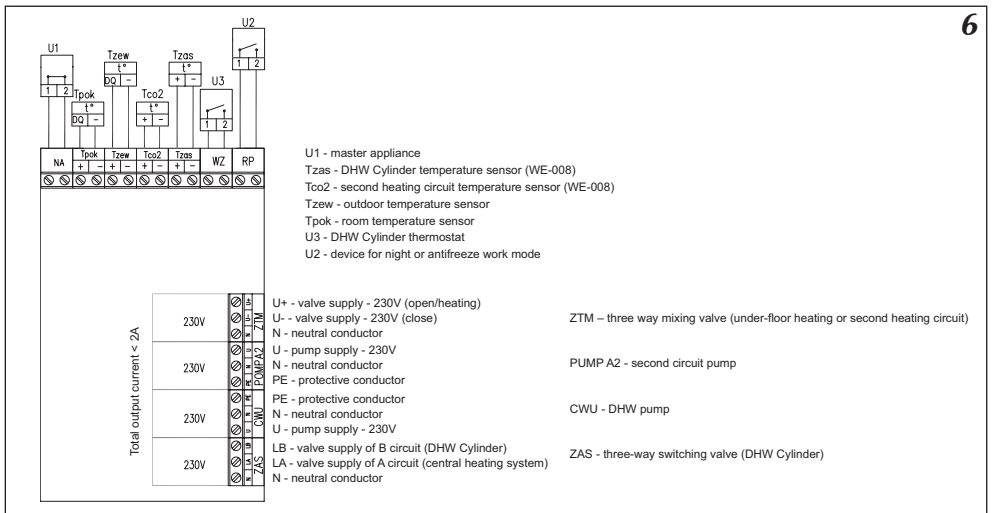

Fig.6 Connecting external appliances to the ZIO board
- close the NA entry on ZIO board (see fig.6),
A number of other appliances or necessary sensors (fig. 6) can be connected to the boiler according to the individual requirements. The temperature sensors should be connected using a LIYY 2x0,14 or similar type of wire. Pay special attention to the sensors ending, incorrect wiring may result in short circuit. The connecting wire lengths must be limited. A long wire may cause interference and faulty sensor operation. The wires must not be run in the same conduit with (or too close to) electrical wiring, and must not be wrapped around any other wires or cables.
Master appliance – you can limit the boiler electricity consumption by connecting the master appliance (e.g. instantaneous water heater) – see fig.6. The master appliance must be equipped with the relay output. The output should be connected to the NA entry in the ZIO board by using LIYY 2 x 0,14 or similar type of wire. **Do not connect any voltage to NA entry!** Use an appropriate relay if the master appliance can control the voltage signal only. **NA entry must remain closed if not used!**
Controller can measure a water temperature for: a) cylinder thermostat equipped with a free voltage output. b) cylinder temperature sensor (WE-008 offer by Kospel S.A.- optional equipment) Set the „Extended Menu” for option a or b. For thermostat contacts and cylinder sensor connection details see fig.6.
There is a ZAS connector on ZIO22 board. (fig.6, page 8). If there is a need to heat-up the water in the DHW cylinder the LB contact is supplied with 230V. In the case of boiler heat the water in the central heating system the LA contact is fed from 230V supply. You can connect a three-way valve to the ZAS connector to switch the central heating system circuit for DHW, if necessary. In the case of DHW heating the outlet temperature is set at 80°C (standard set point). You can lower the outlet temperature by setting the „Extended Menu”. Kospel recommends to use the VCZMH6000E three-way valve with the VC6012ZZ00 servo-motor and the 45900445-013B wire. The three-way valve work is controlled by supplying voltage of 230V to either brown or black wire. The blue wire must be connected to the terminal of neutral conductor „N”. If you use the brown wire you will open the port between „AB” inlet and „B” outlet. If you use the black wire you will open the port between „AB” inlet and „A” outlet. See valve body for the inlet and outlet marking.
Fig.6 shows the three-way valve connection diagram. Connection diagram is based on the following assumptions: the boiler hot water outlet is combined with the „AB” inlet of valve. A and B outlets function:
- brown wire of 45900445-013B cable to LB terminal (see fig.6)
- blue wire of 45900445-013B cable to the N terminal (see fig.6)
The boiler is able to control DHW pump. The pump operation can be set to meet the individual needs (24hours program). The pump should be connected to ZIO board as shown in fig.6 (page 8). The pump is supplied with 230V.